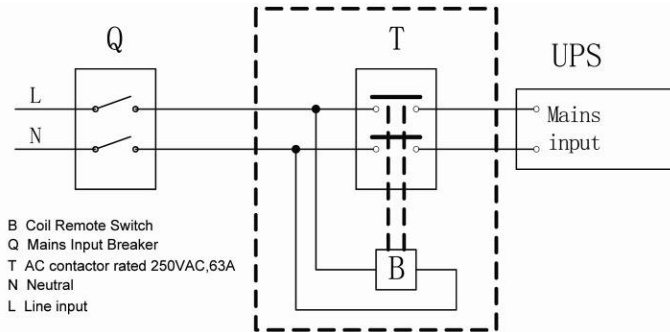

Fig.4-1 Typical external isolating device installation
- 1) It is suggested to install an external isolating device against current backfeed between Mains input and UPS (see Fig.4-1). After the device is installed, it must add a warning label with the following wording or the equivalent on the external AC contactor: RISK OF VOLTAGE BACKFEED. Isolate the UPS before operating on this circuit, then check for hazardous voltage between all terminals.